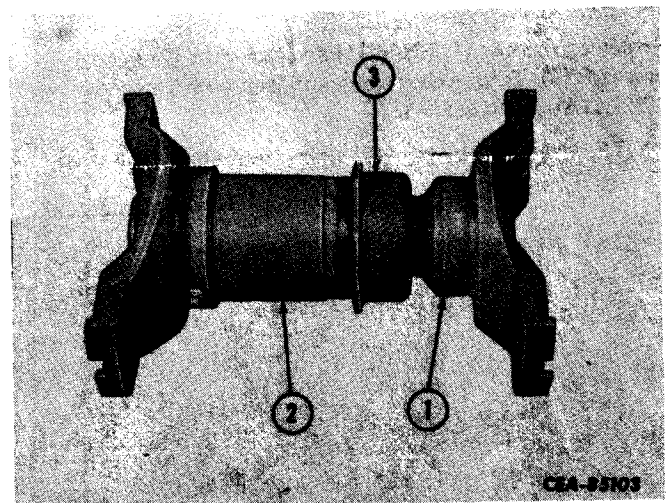

Figure 5-9
Slide slip yoke (2, Fig. 5-9) onto splined shaft (1) aligning punch marks made during disassembly. Screw packing retainer (3) onto slip yoke and tighten it enough to avoid leakage when shaft is greased.